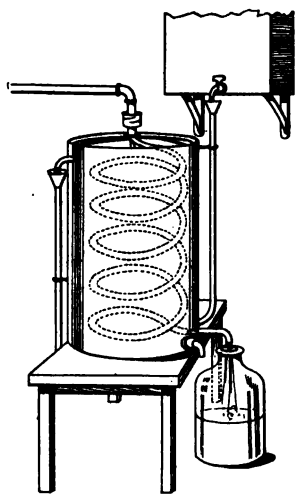

FIG. 175. — Worm condenser.
*The process of distillation consists of boiling a liquid and condensing its vapor.* In commercial work this is usually done in a “worm condenser.” This consists of a pipe coiled into a spiral and surrounded by circulating cold water (Fig 175). In this way a large condensing surface is obtained in a small space.